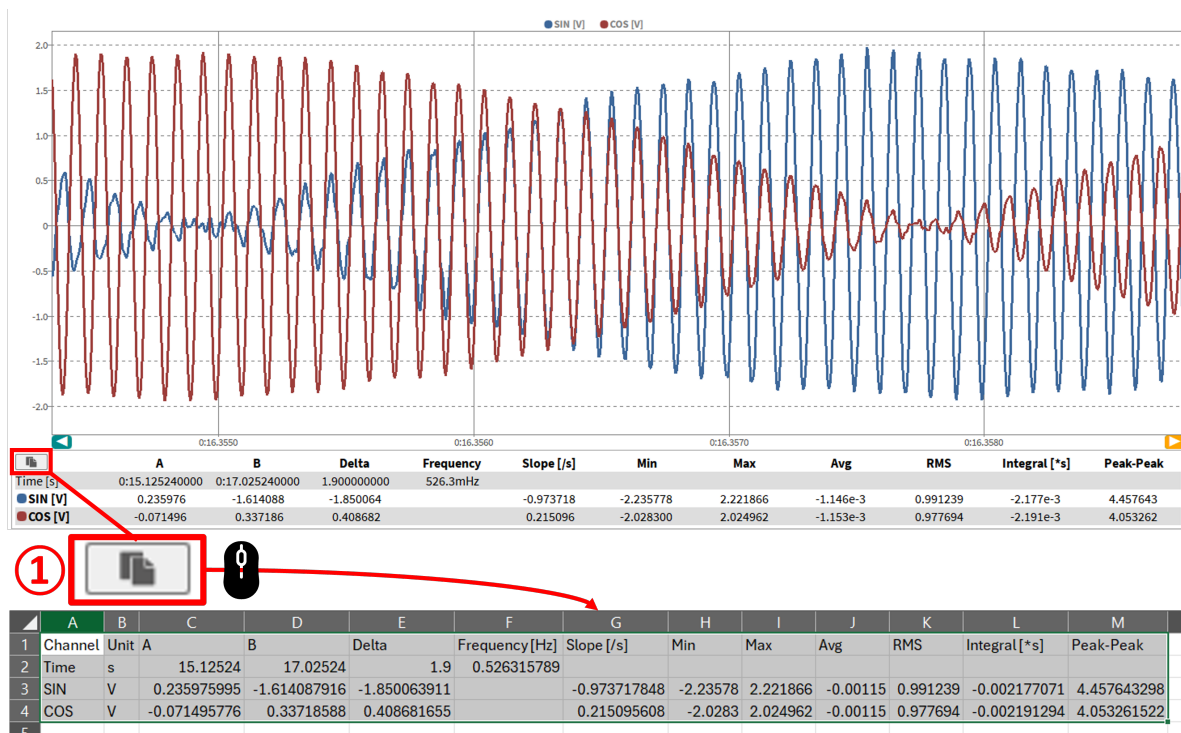

Fig. 8.23: Copy cursor values to clipboard
It is also possible to copy the displayed cursor values directly from the instrument in use to the clipboard and paste them into an Excel file or a simple text file, for example. To do this, simply click on the copy button displayed on the left above the table of cursor values (see ① in Fig. 8.23) or you can simply click in the instrument with the left mouse button and copy the values with the key combination "CTRL + C".